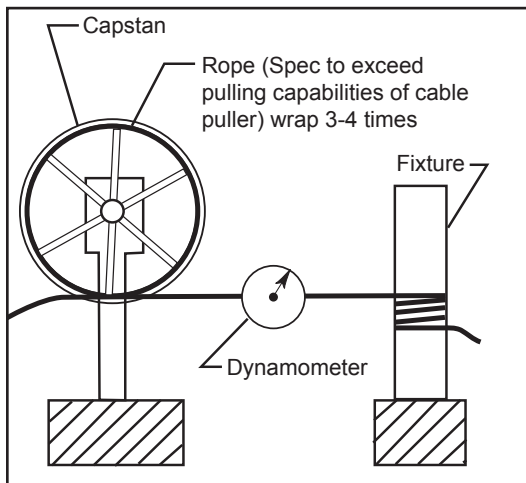

Figure 21. Calibration Verification Setup
1. Set up the puller as if cable were to be pulled, including installation of the capstan (figure 21).